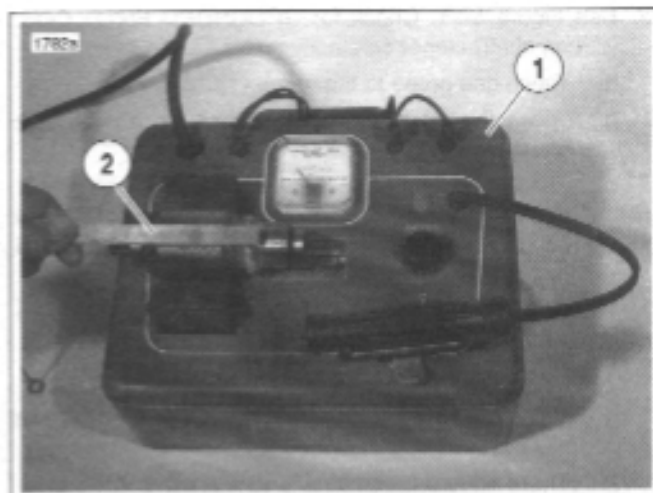
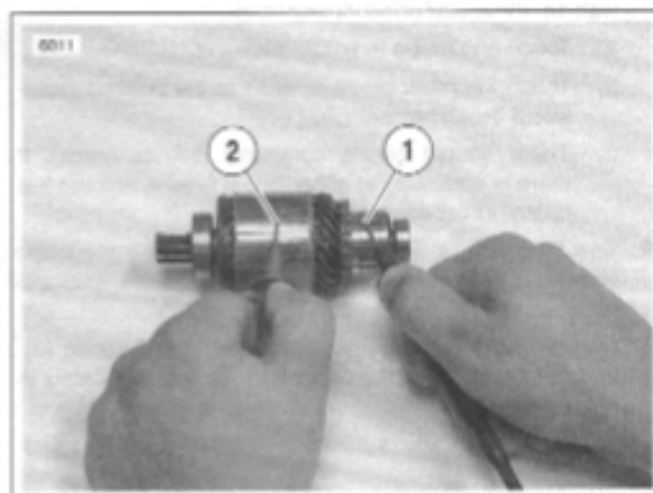
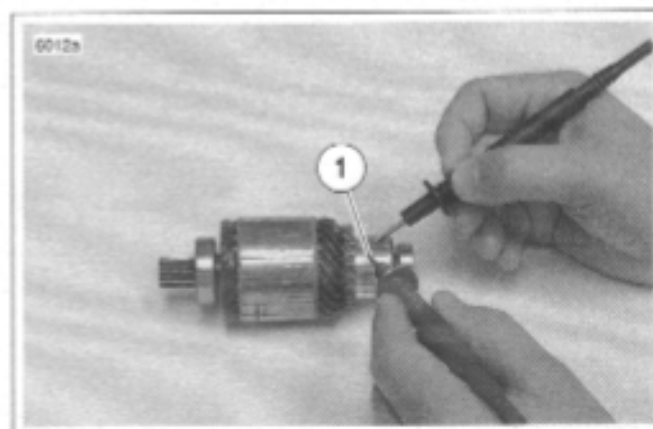

Figure 5-18. Shorted Armature Test Using Growler
Figure 5-19. Grounded Armature Test
Figure 5-20. Open Armature Test
9. See Figure 5-18. Check for **SHORTED ARMATURE** with a growler.
- a. Place armature on growler (1).
- b. Hold a thin steel strip (2) (hacksaw blade) against armature core and slowly turn armature.
10. See Figure 5-19. Check for a **GROUND**ED ARMATURE with an ohmmeter or continuity tester.
- a. Touch one probe to any commutator segment (1).
- b. Touch the other probe to the armature core (2).
11. See Figure 5-20. Check for **OPEN** ARMATURE with an ohmmeter or continuity tester.
- a. Check for continuity between all commutator segments (1).